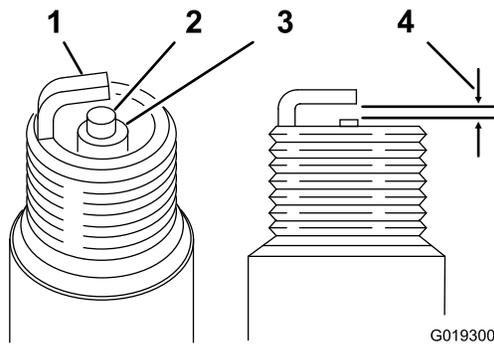

Figure 56
3. Check the condition of the side electrode, center electrode, and center electrode insulator to ensure that there is no damage (Figure 56).
4. Set the air gap (Figure 56) between the center and side electrodes at 0.81 mm (0.032 inch).